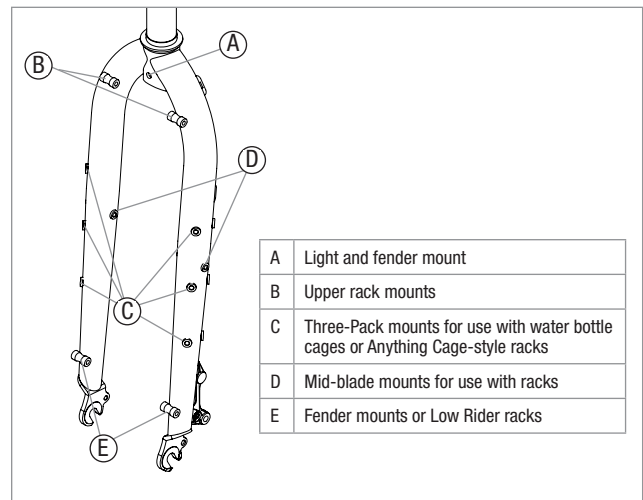

Figure 10 - Unicrown Fork Rack Mounting
Ensure your fork is rack-compatible. See Figure 10 or 11 for approved rack mounting locations on the fork. Follow the rack manufacturer's instructions for installation. Be sure to use all hardware that came with the rack for installation.
**▲ WARNING:** Do not mount racks to any other fork mounts than the those pictured in Figures 10 and 11. Failure to properly install a rack can lead to a crash and cause serious injury.